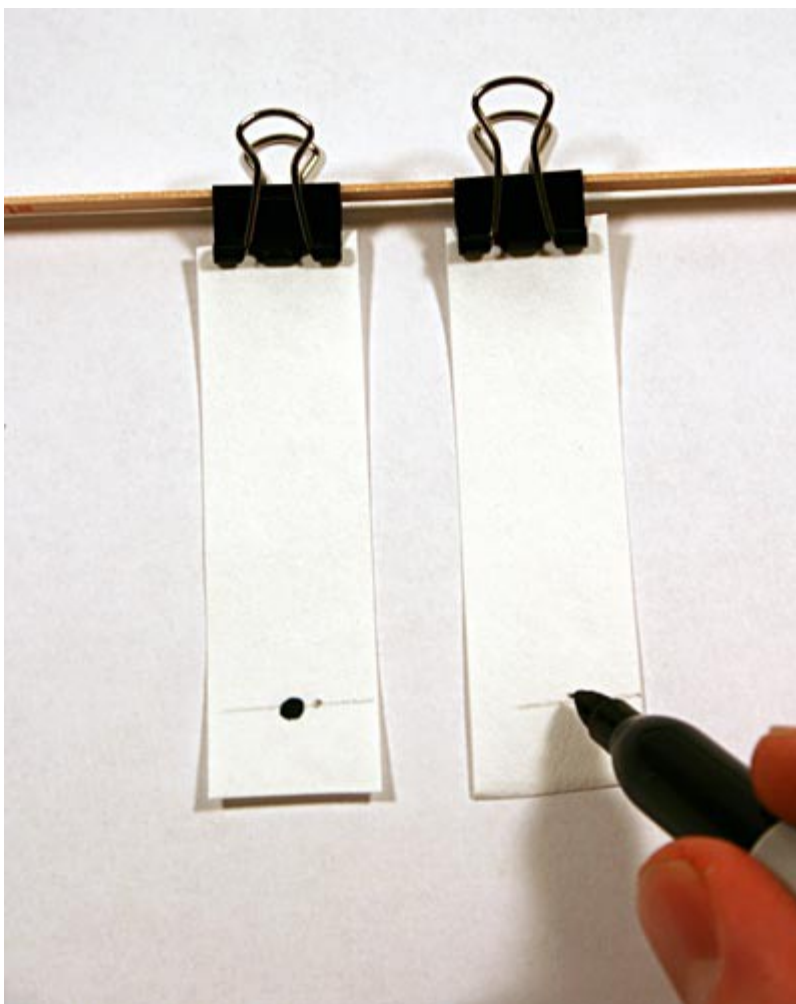

Figure 4. A marker or pen should be used to put a single spot of black ink in the middle of the origin line on the chromatography strip.
3. Using one of the pens/markers, place a small dot of ink at the center of the origin line of a chromatography strip. This is your spotted sample as shown in Figure 4 below.